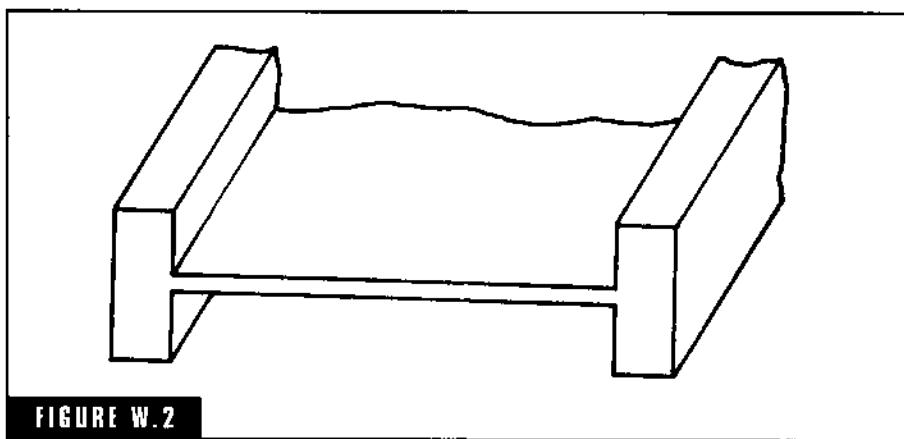

FIGURE W.2
**web** A plate or member lying between heavier sections (Fig. W-2).